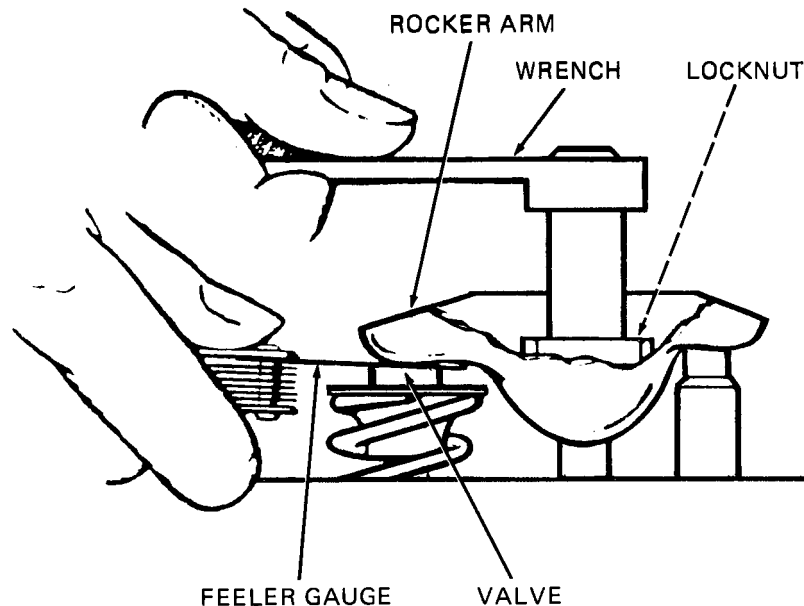

Figure 7-20. Adjusting Valve Clearance.
- (3) Loosen the rocker arm retaining nuts (7, Figure 7-18) until the rocker arms move freely. Now tighten the rocker arm retaining nuts until there is 0.001 in. (0.25 mm) clearance between the valve stem and rocker arm. Use a feeler gage to measure clearance (see Figure 7-20).